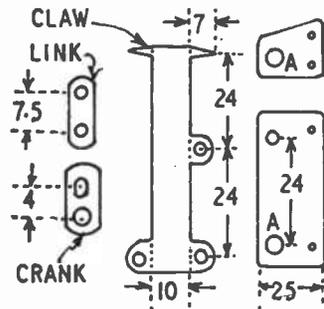

Fig. 1—Parts for movement; mm. dimensions
The necessary items are shown in Fig. 1, and are cut from brass or aluminium at least  $\frac{1}{16}$  in. thick. The two large holes (A) are drilled just large enough to clear the axle used, as it rotates in them. The other holes which are used for 8 B.A. pivot bolts are drilled just large enough to clear the bolts. (The size and exact position of the other small holes, used to screw the bearing pieces in place, is unimportant.) The really important dimensions are those of 24mm. between bearing holes and claw, and of  $7\frac{1}{2}$ mm. between the holes in the link. All the parts can be cut with saw and filed to shape.